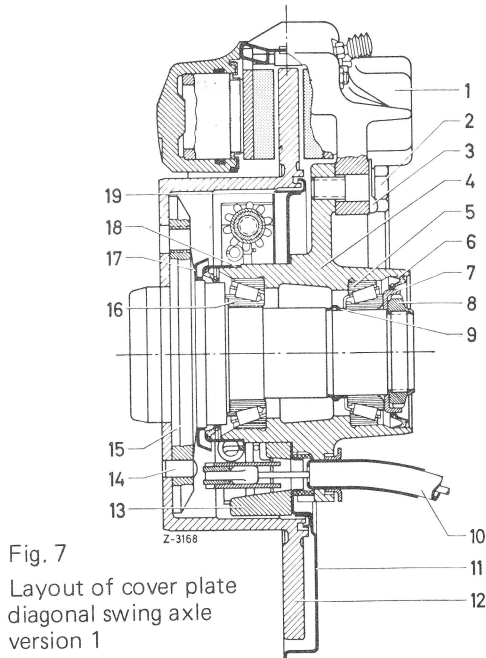

Fig. 7
6 Position caliper against holder of wheel carrier (4). Then screw hex. screw (2) into holder using a new lock plate (3) (Fig. 7 to 9), tighten to 90 Nm (9 kpm) and secure.